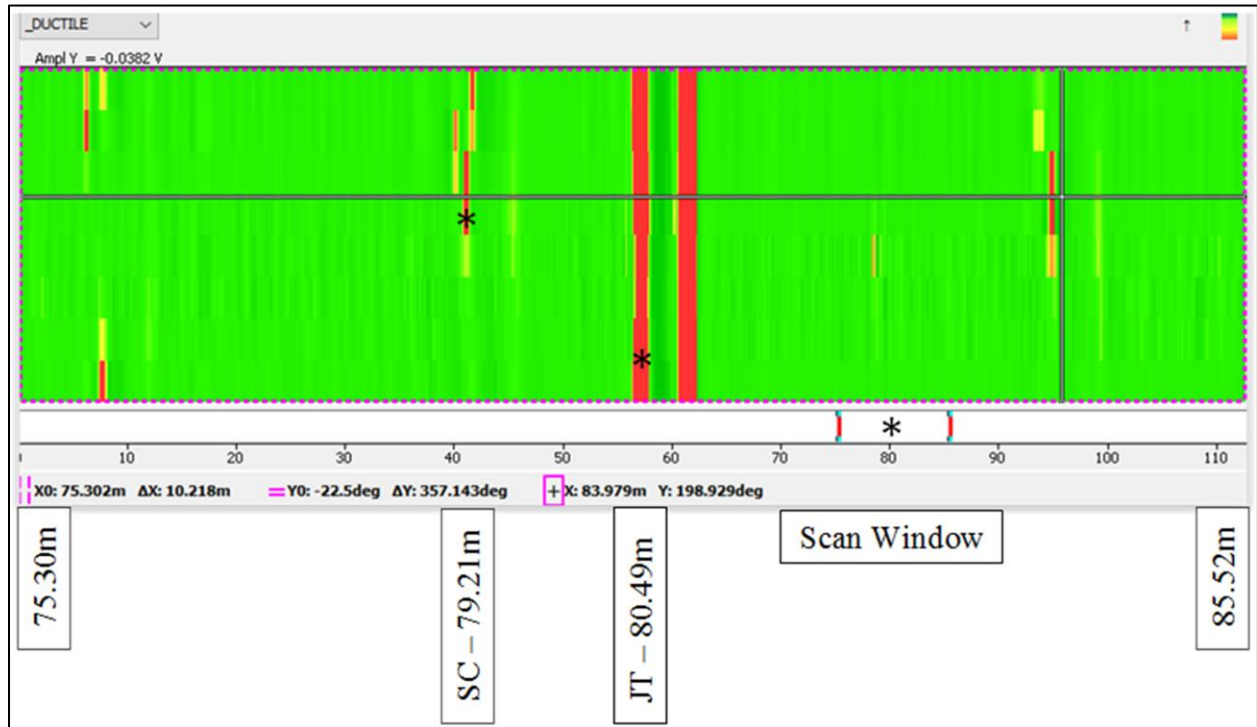

Figure 8: Scan data provided in PDF format
1. Color scan from assessment probe every 10 to 20m in PDF format, with distance of features shown, similar to figure 8.